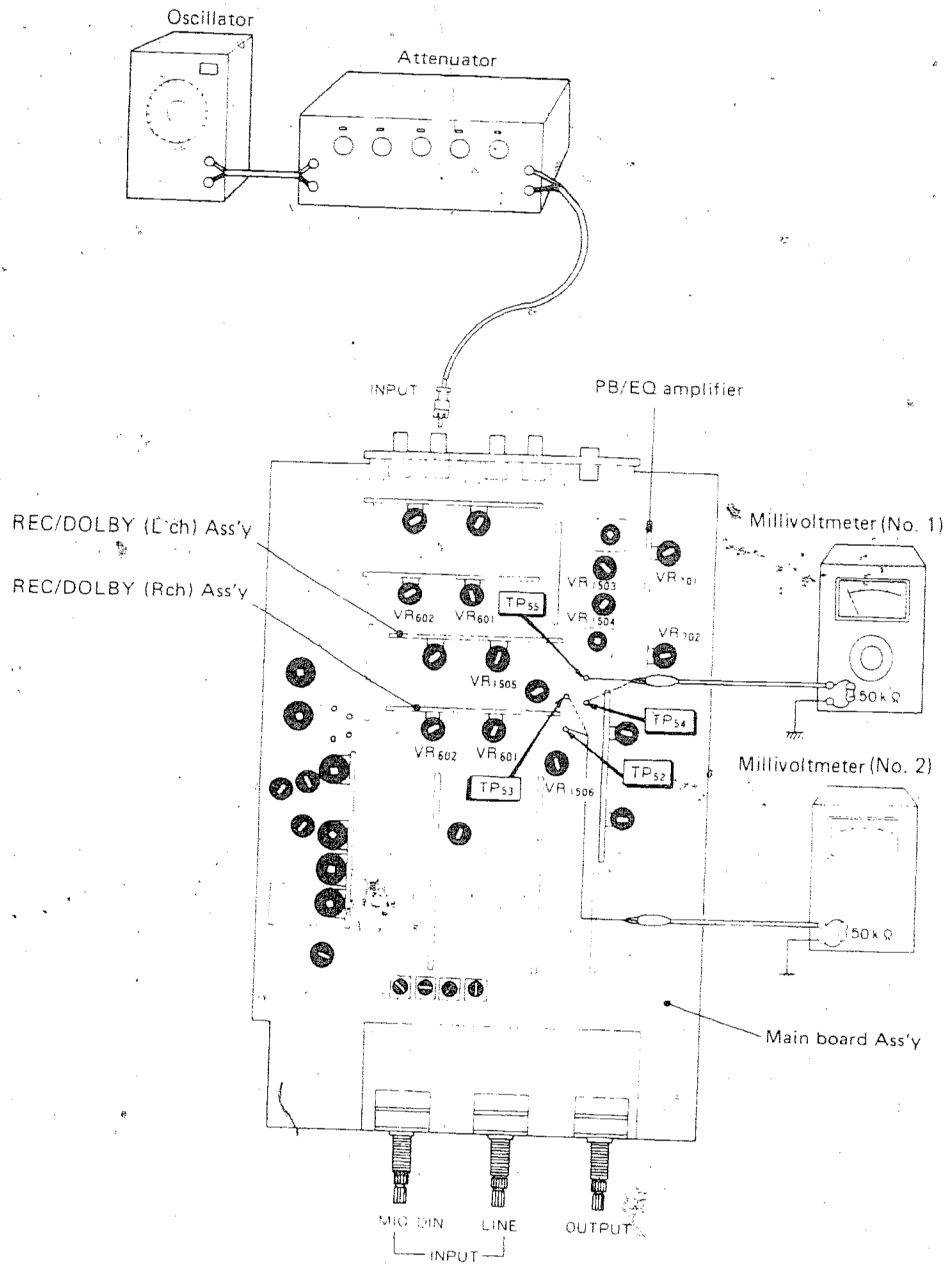

Fig. 26
1. Connect a millivoltmeter to T.P. terminal No.54 (L. ch) of the main board, and another millivoltmeter to T.P. No.55 (R. ch). Also connect both millivoltmeters to ground, as shown in Fig. 26.
1. Leave the millivoltmeter connected to the same T.P. terminals and ground as for the head azimuth adjustment above (and as shown in Fig. 26).
1. Leave the meters connected to the same T.P. terminals and ground as for the head azimuth adjustments above (and as shown in Fig. 26).
2. Next connect a pair of meters to T.P. terminals No.53 (L. ch) and No.52 (R. ch) on the main board, and another pair of meters to the T.P. terminals No.54 (L. ch) and No.55 (R. ch), connecting all the meters to ground. (see Fig. 26).
1. Connect meters to TP terminals No.52 (R. ch) and No.53 (L. ch) on the main board (Fig. 26).